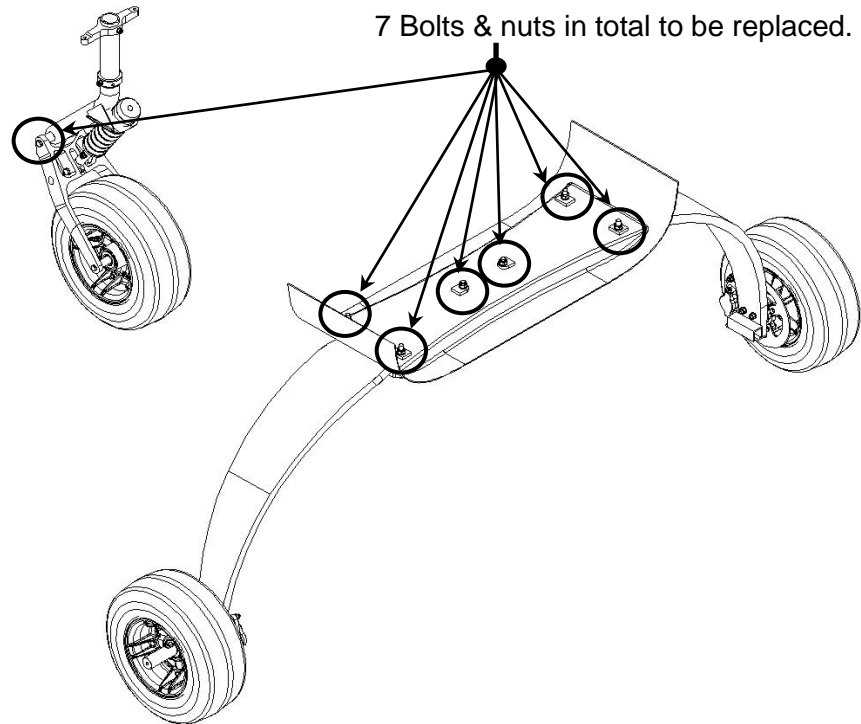

Figure 15 – Undercarriage (all J-Series)
- Main undercarriage bolts and nose leg pivot bolts shown in Figure 15 are to be changed every 500 hours TIS.